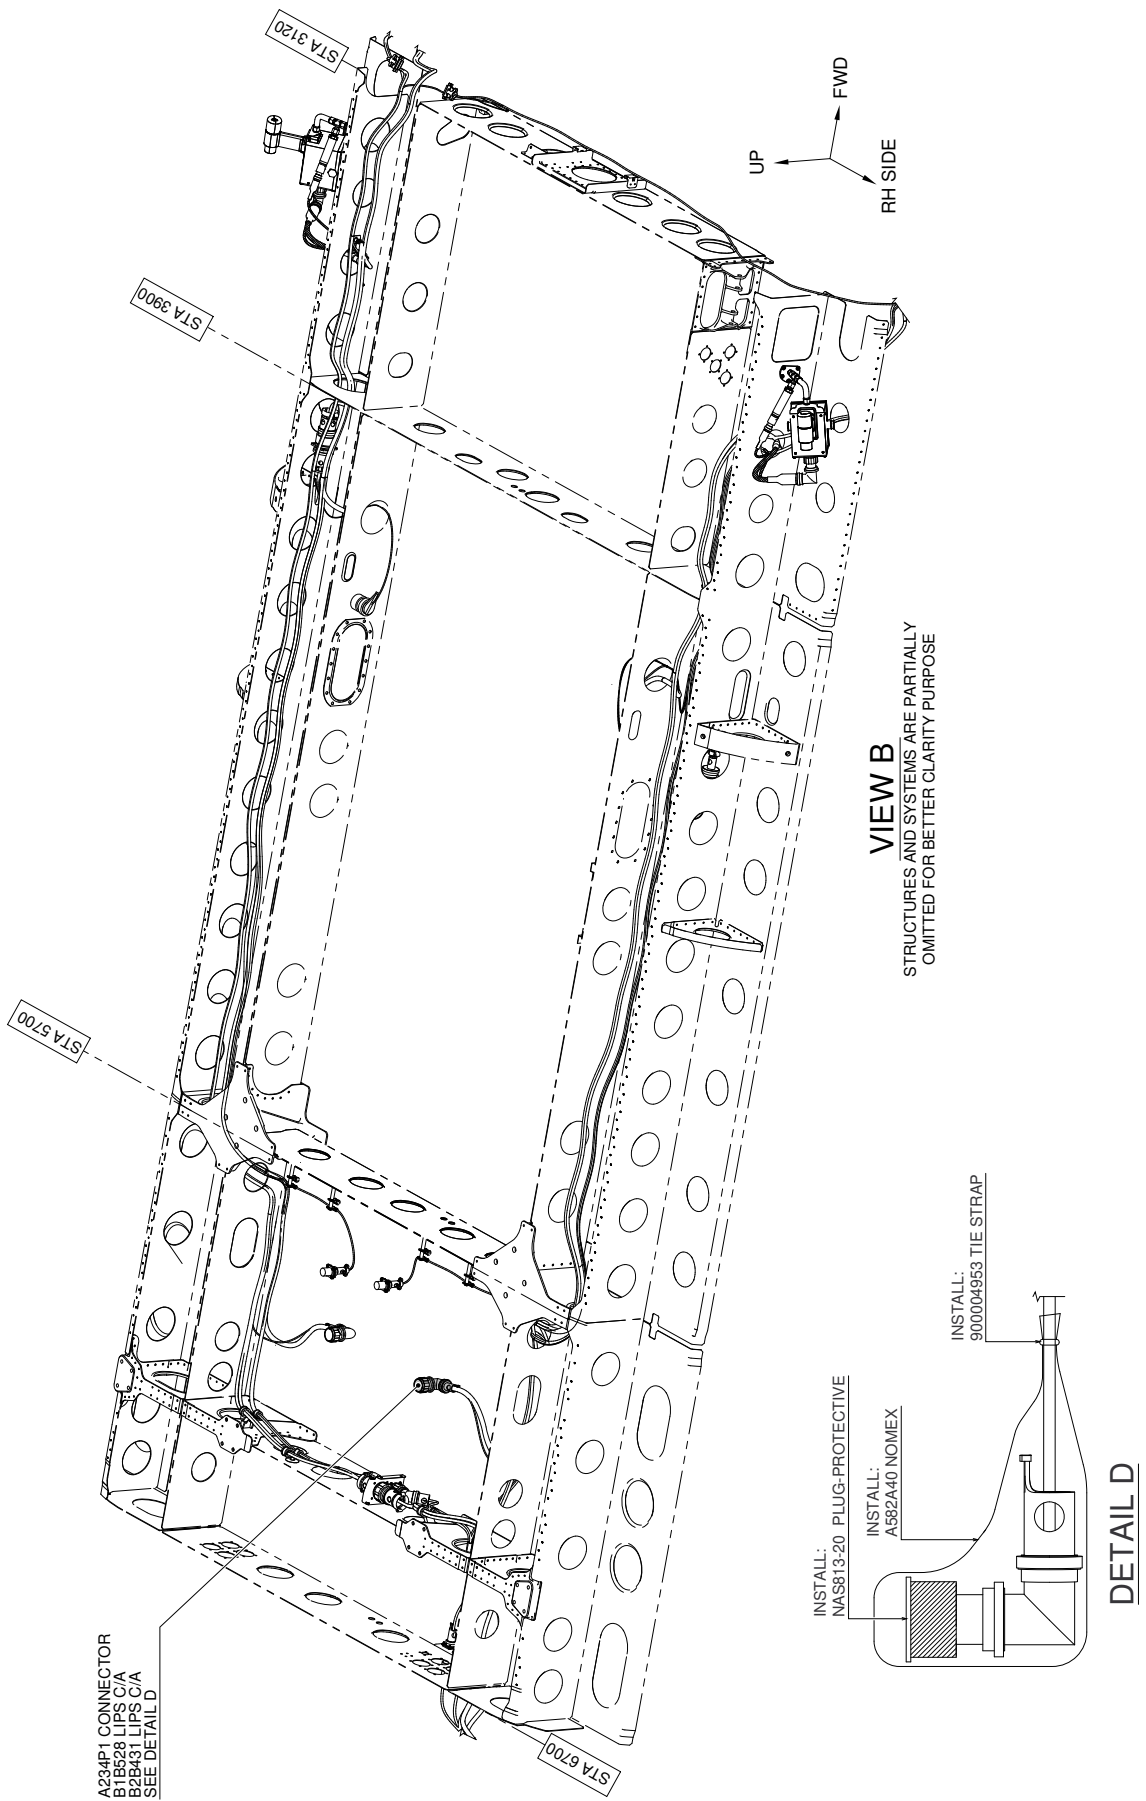

Figure 4
7. With reference to Figure 4 View B and Detail D, disconnect connector A234P1 and protect by means of the plug P/N NAS813-20, the nomex P/N A582A40 or P/N EN6049-006-40-5 and the tape P/N 900004953.